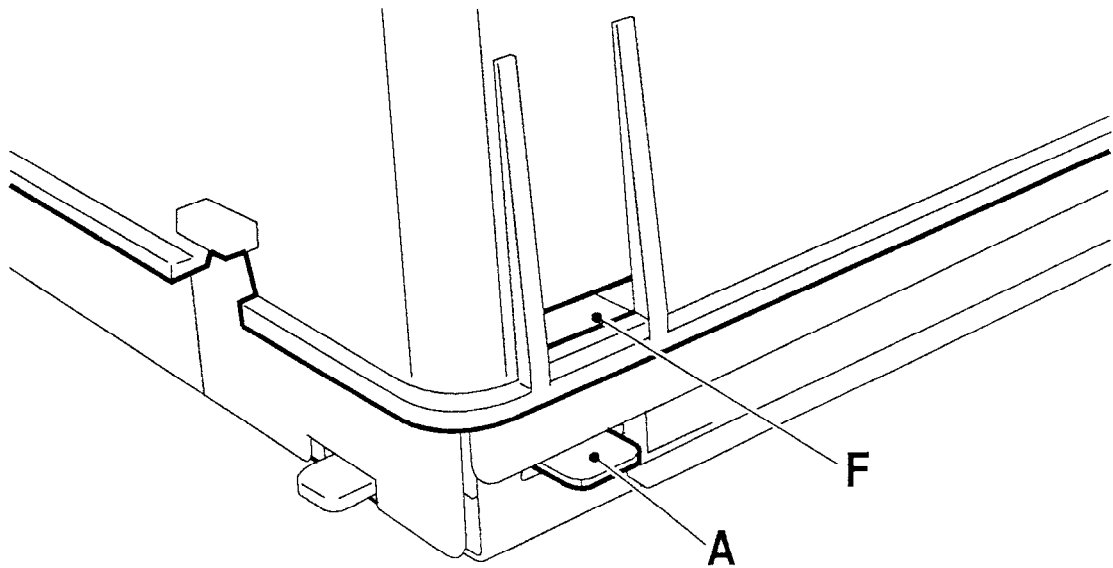

Fig. 7-15
**Caution** In reassembling the machine, ensure that the rear tabs (**A**) of the base are properly inserted in the corresponding slots **F** (Fig. 7-15):